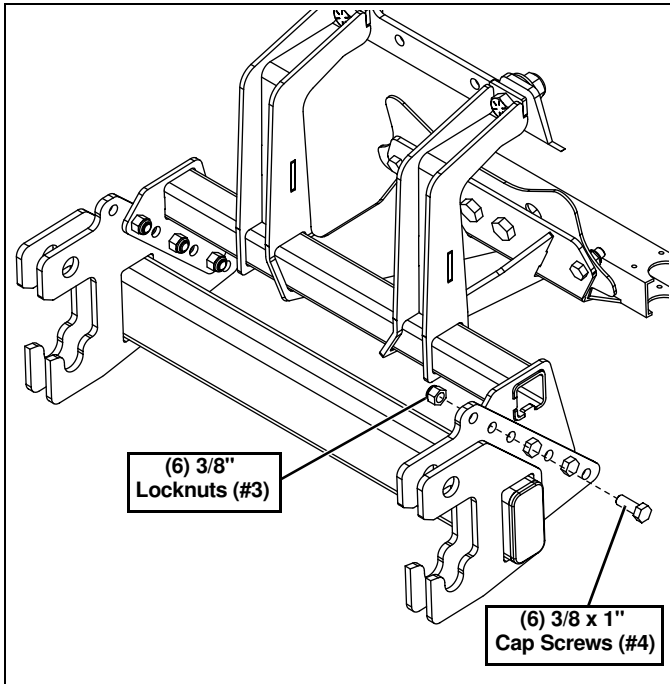

Figure 8
6. Attach the UTV Mount (#1) to the Mounting Weldment (#2) with (6) 3/8"-16 x 1" Cap Screws (#4) and (6) 3/8"-16 Locknuts (#3). Three on each side. (See Figure 8.)